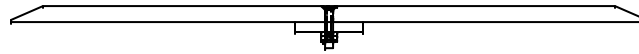

Figure 2
STEP 1. Select the mating cover plates (Side A and Side B). Select a splice bar. Note that the splice bar has a slotted anchor hole near one end of the bar. Using this slotted anchor hole, select one of the fasteners provided, machine screws and lock nuts, and attach the splice bar to the bottom of the Side A cover plate, see Figure 2. Ensure that the anchor is centered in the splice bar's slotted anchor hole.